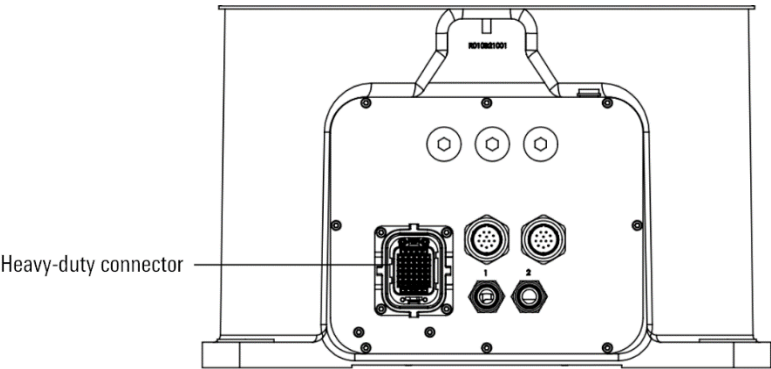

Figure 5-3 Heavy load connector on the manipulator
There are aviation plugs and heavy load connectors on the manipulator. The specific location of heavy load connector PQ50WASX-46P-UNIT (10) is shown in Figure 5-3.